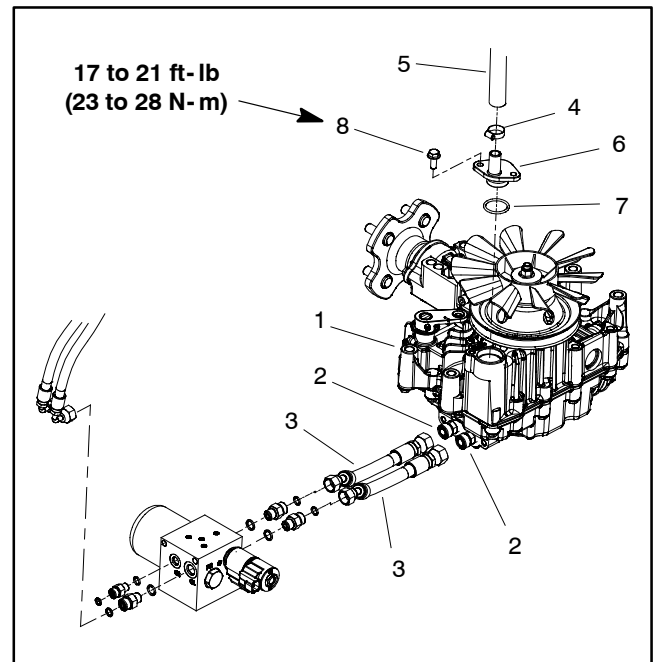

Figure 44
8. If RH transmission is being removed (Fig. 44):
9. Loosen hose clamp that secures hydraulic hose from reservoir to fitting in top of transmission (shown in Fig. 44). Separate hose from transmission fitting.
- B. Remove two (2) flange head screws (item 17) that secure the crossmember (item 10) to the transmission that is being removed.
- C. Remove eight (8) cap screws and flange nuts that secure transmission to machine frame.
13. If necessary, remove flange head screw that secure hydraulic fitting (item 6 in Fig. 44) into transmission. Remove fitting and then O-ring from transmission. Discard removed O-ring.
1. If removed, install hydraulic fitting (item 6 in Fig. 44) into transmission:
- B. Secure fitting to transmission with flange head screw (item 8 in Fig. 44). Torque screw from **17 to 21 ft-lb (23 to 28 N-m)**.
- B. Install eight (8) cap screws and flange nuts to transmission and machine frame. Do not fully tighten fasteners at this time.
- C. Align crossmember (item 10) to the installed transmission and secure with two (2) flange head screws (item 17). Take care when installing screws to prevent damaging threads in transmission.
- D. Secure transmission by tightening eight (8) cap screws from **27 to 33 ft-lb (37 to 44 N-m)**.
5. Install hydraulic hose onto transmission fitting and secure with hose clamp (shown in Fig. 44).
6. If RH transmission was removed (shown in Fig. 44):